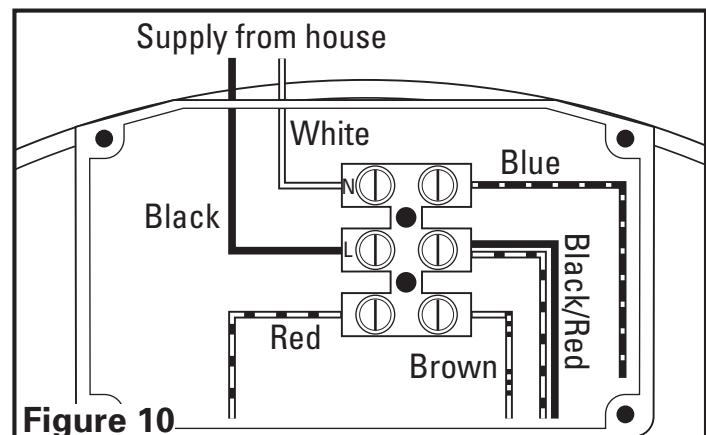

Figure 10
3. Insert the white wire from the house into the terminal strip port labeled "N" and tighten using a small regular screwdriver. Insert the black wire from the wall switch into the terminal strip port labeled "L" and tighten using a small regular screwdriver. Since the motor is isolated within a plastic housing, grounding is not necessary (**Figure 10**).